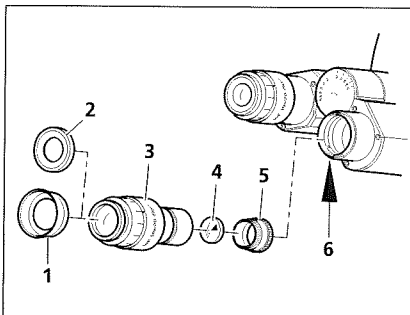

Fig. 7 Inserting the eyepiece pointer
The eyepieces (Fig. 7/3) are equipped with fold-over rubber eyecups (Fig. 7/1: pulled out; Fig. 7/2: folded over).
- Use Allen key SW 1 mm to loosen grub screw (Fig. 7/6) on the binocular body from the bottom; remove the eyepiece.
- Unscrew the stop (Fig. 7/5) by hand from the eyepiece.
- Insert the eyepiece pointer (Fig. 7/4) into the eyepiece (with the coated side facing your eyes). Screw in the eyepiece stop again.
- Turn the focusing ring of the eyepiece (Fig. 7/3) to focus on the triangular figure of the eyepiece pointer.